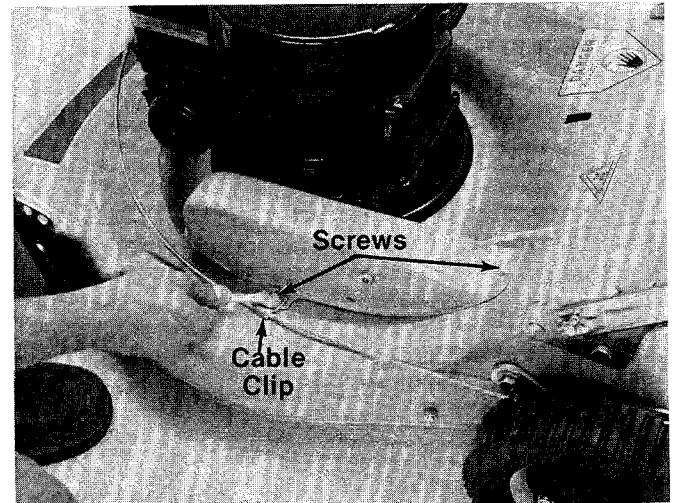

FIGURE 31.
3. Remove the three screws holding the cable clip and belt guard (and idler assembly). See figures 31 and 32.